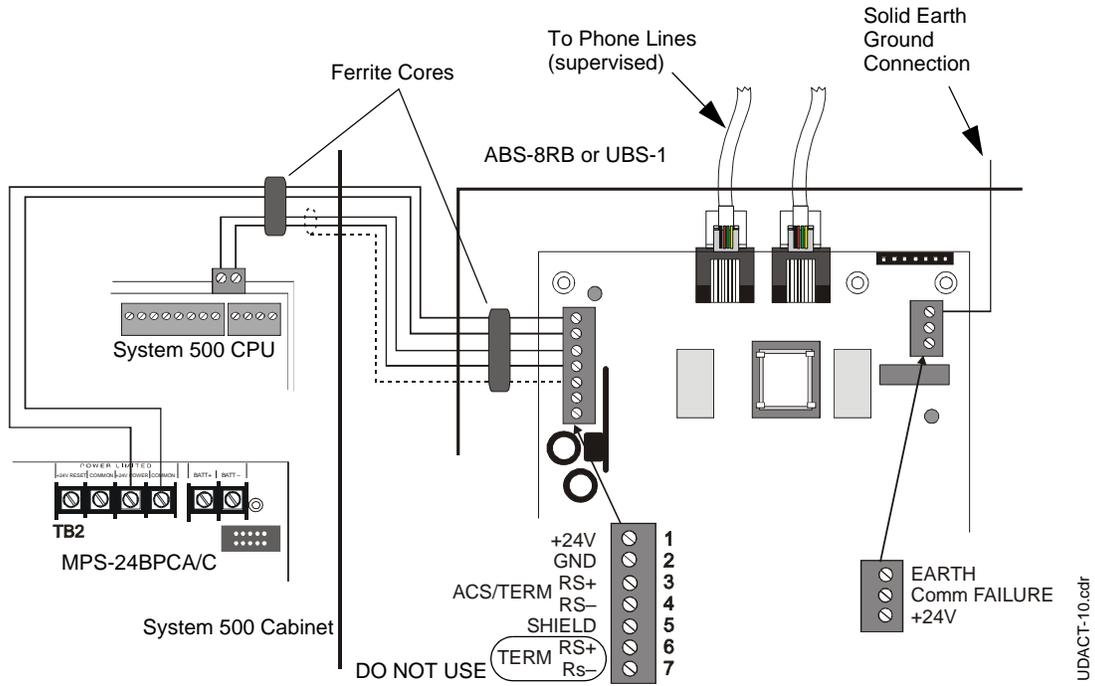

Figure C.1 UDACT and System 500
Refer to Figure C.1 on page 72.
2. Recommended wire is 12 AWG (3.25mm²) to 18 AWG (0.75mm²) twisted pair, shielded cable. Connect only one end of shield: a) shield may be connected to cabinet (earth ground) at fire alarm panel, or b) shield may be connected to TB1 Terminal 5 (Shield) at UDACT as shown in Figure C.1.